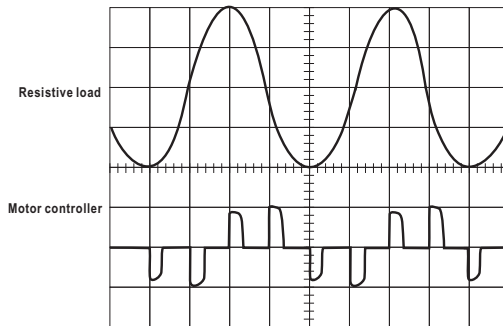

Figure 3: Typical current waveforms
5. Adjust the oscilloscope's channel amplitude and time base settings as necessary to get a clear and stable signal. Set the oscilloscope input to DC volts to see both the AC and DC currents; set the channel to AC to see the AC current only. The current drawn by selected devices can vary. While the RMS current can only be used in low frequency current, the transient peaks can be quite high. Figure 3 shows the difference between a line current drawn by a resistive load and a motor controller.